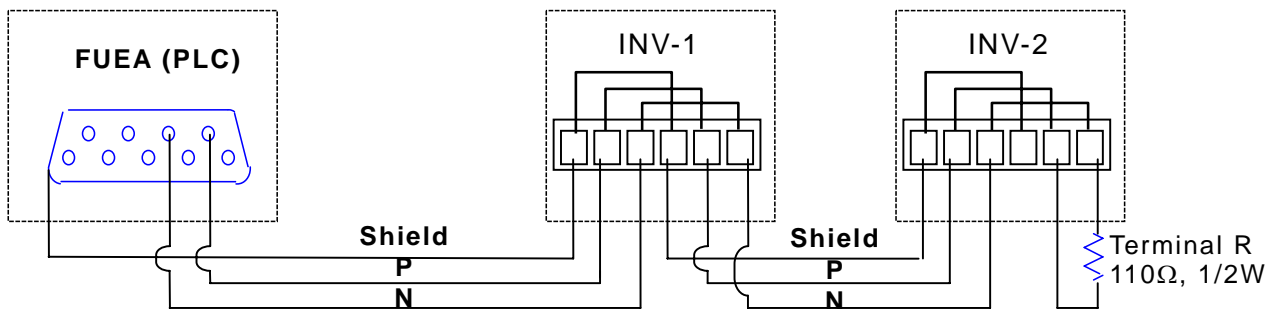

Figure 6. Wiring
- * Connect terminal resistor at the last connected inverter between terminal P and N. (refer to Figure 6.)